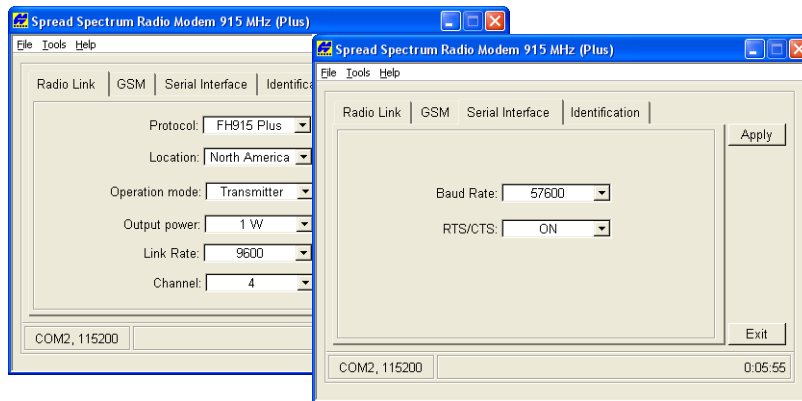

Figure 3-2. Apply Radio Link and Baud Rate Parameters
3. On the *Radio Link* tab, set the following parameters (Table 3-1) and click **Apply** (Figure 3-2 on page 3-6).
4. On the *Serial Interface* tab, select the following baud rate parameters and click **Apply** (Figure 3-2).